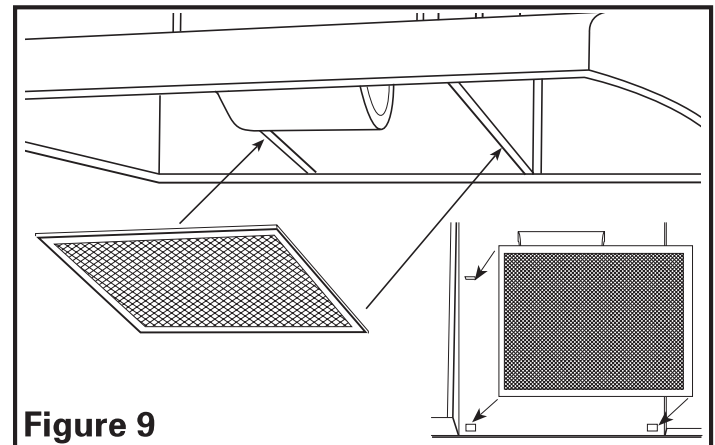

Figure 9
1. Install the appropriate filter sliding the back side of the filter into the tab and pressing the front of the filter into place (**Figure 9**).